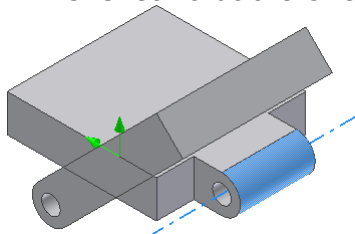

Figure 1.8
13. Move the cursor over the hole on Plate 1:1 until the axis is indicated as shown in Figure 1.8 and select using the **LMB**.